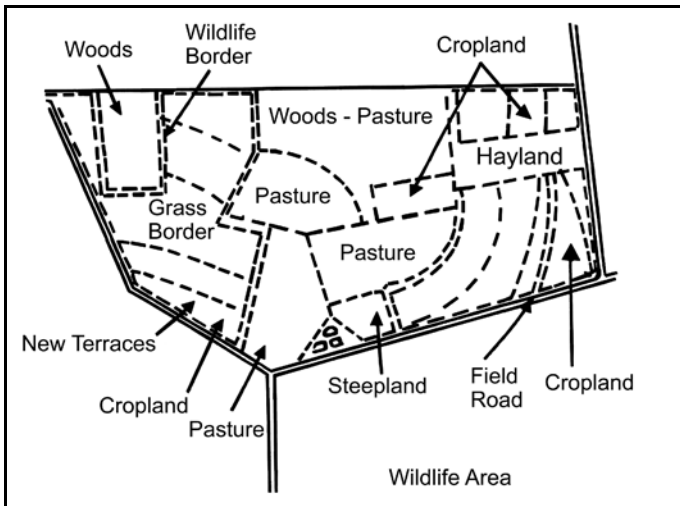

Figure 2. Land capability layout.
If an NRCS plan is not available for your farm, use the sketch of your land which you previously obtained. Divide your land into areas that are best suited for: (1) permanent pastures or hay production, (2) woodlands not to be pastured, (3) woodlands that can be pastured and (4) cultivated crop production (Figure 2, page 4). These land assignments are made based on uses that will return the greatest possible profit for each type of land.